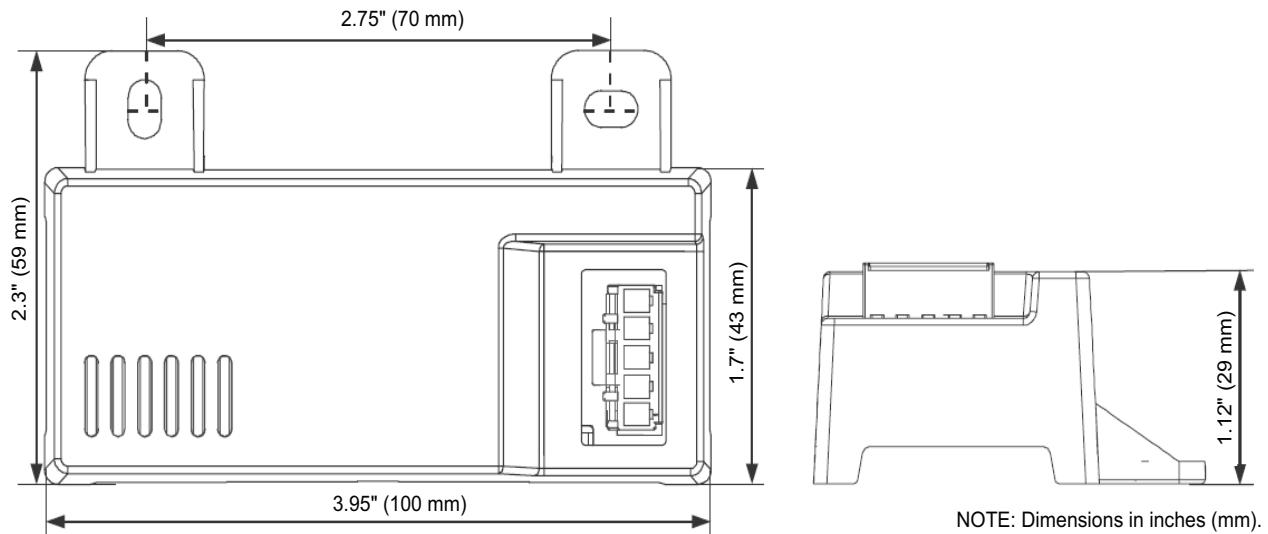
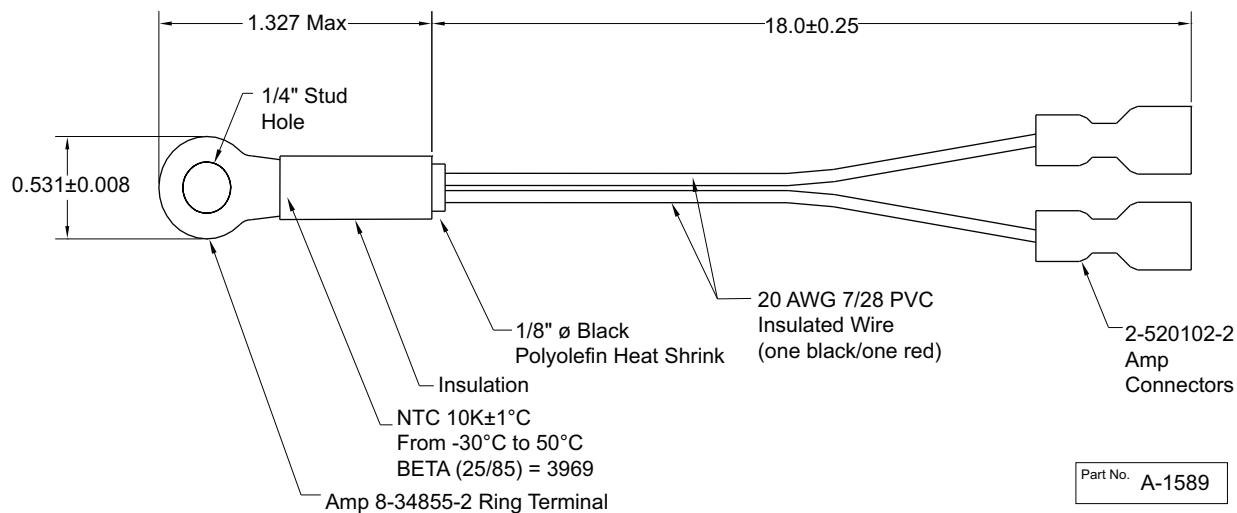
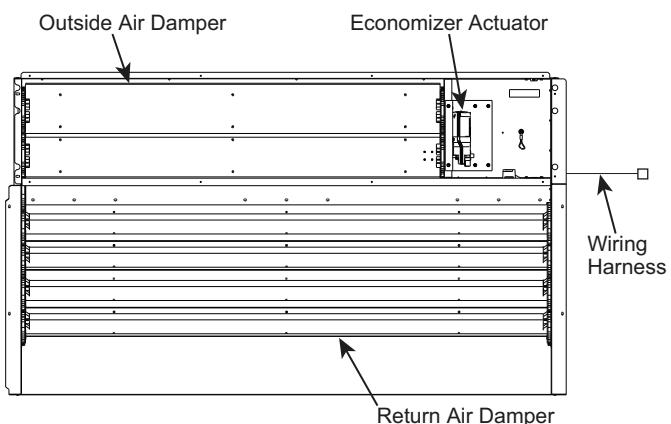

Fig. 88 — HH57LW001 Dimensional, Connection and Switching Information
Fig. 89 — HH79NZ039 Dry Bulb and Mixed Air Sensor Wiring
Fig. 90 — EconomizerONE System Component Locations
When using the HH57LW001 enthalpy sensor (see Fig. 88) for outside air changeover, the existing HH79NZ039 dry bulb sensor (see Fig. 89) must be removed. The enthalpy sensor will be mounted in the same location as the dry bulb sensor (see Fig. 90). When the enthalpy sensor's OA (Outside Air) temperature, enthalpy, and dew point are below their respective set points, outside air can be used for free cooling. When any of these are above their set point, free cooling will not be available. Enthalpy set points are configurable and create an enthalpy boundary according to the user's input. For additional details, see Fig. 91-92 and Table 32.
The optional enthalpy control sensor (P/N: HH57LW001) communicates with the POL224 economizer controller using the 5-wire harness, 48TC005213. The HH57LW001 sensor can be used as a single outside air enthalpy, a differential return enthalpy, or a differential return temperature sensor. Refer to the base unit control wiring diagrams found earlier in this book to wire the HH57LW001 enthalpy sensor for each option. See Fig. 88 and Table 34 on page 70 to locate the wiring terminals for each enthalpy control sensor.
Economizers are shipped standard with an HH79NZ039 outside air dry bulb sensor (refer to Fig. 89). System default setting (high temp limit) is 63°F (17°C) and has a range of 48°F to 80°F (9°C to 27°C). Sensor is factory installed on economizer.
If installing the optional HH57LW001 enthalpy sensor, the HH79NZ039 dry bulb outside air sensor must first be removed. Wire sensor to harness 48TC005213 and the (5) wires from the harness to the EconomizerONE harness in the return air chamber. Harness 48TC005213 has a 5-pin plug that connects directly to the HH57LW001 enthalpy sensor. Refer to the base unit control wiring diagrams earlier in this book for wiring connections. Refer to Fig. 88 and see Table 34.